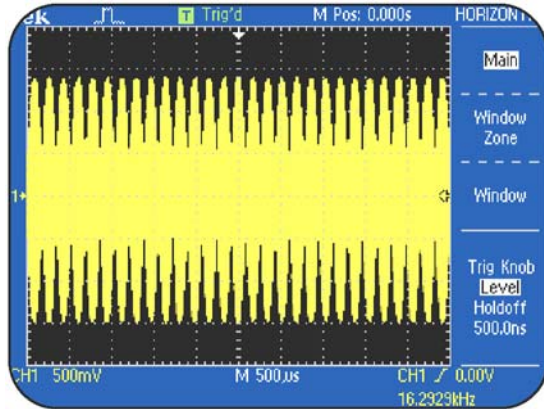

Figure 5.11: Complex AM signal without holdoff
Figure 5.11 shows the updating overlay of the amplitude modulation region of an amplitude modulated (AM) signal.